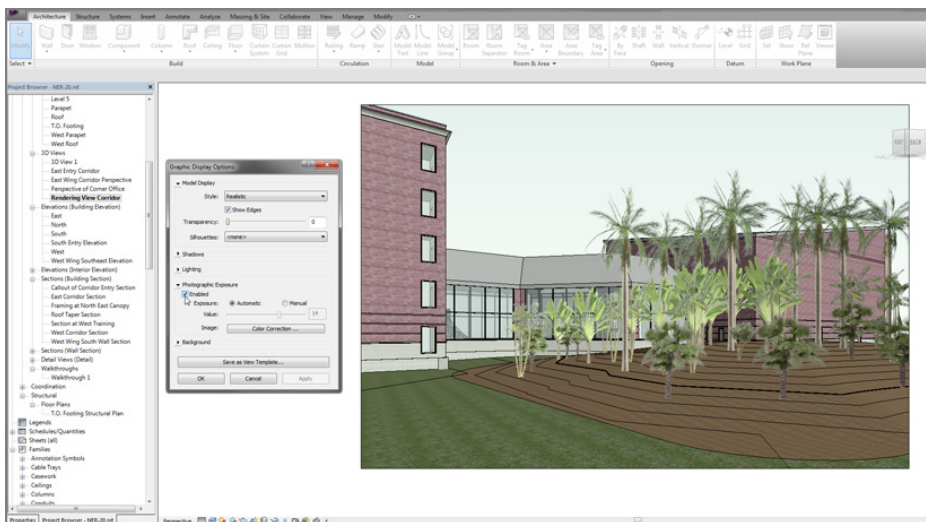

FIGURE 19.2: Selecting Graphic Display Options, and changing the crop region
8. Select the crop region, and widen the view as shown in Figure 19.2.
11. In the Properties dialog, click the Edit button in the Graphic Display Options row (see Figure 19.2).